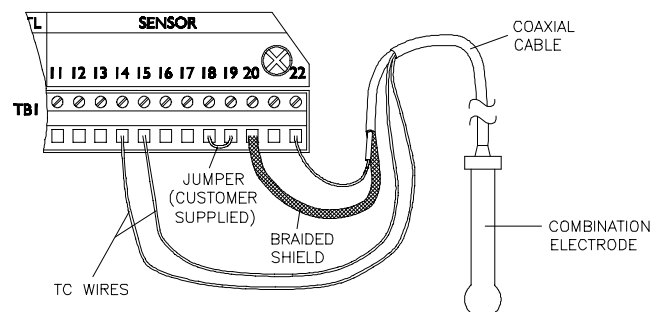

FIGURE 2-8 Connecting Conventional Combination Electrode to Analyzers with “A” or No Letter Prefix Serial Number
- Terminals 18 and 19 for analyzers with “A” or no letter prefix serial number (Figure 2-8).
- Terminals 14 and 15 for analyzers with “A” or no letter prefix serial number, attaching either wire to either terminal (Figure 2-8).